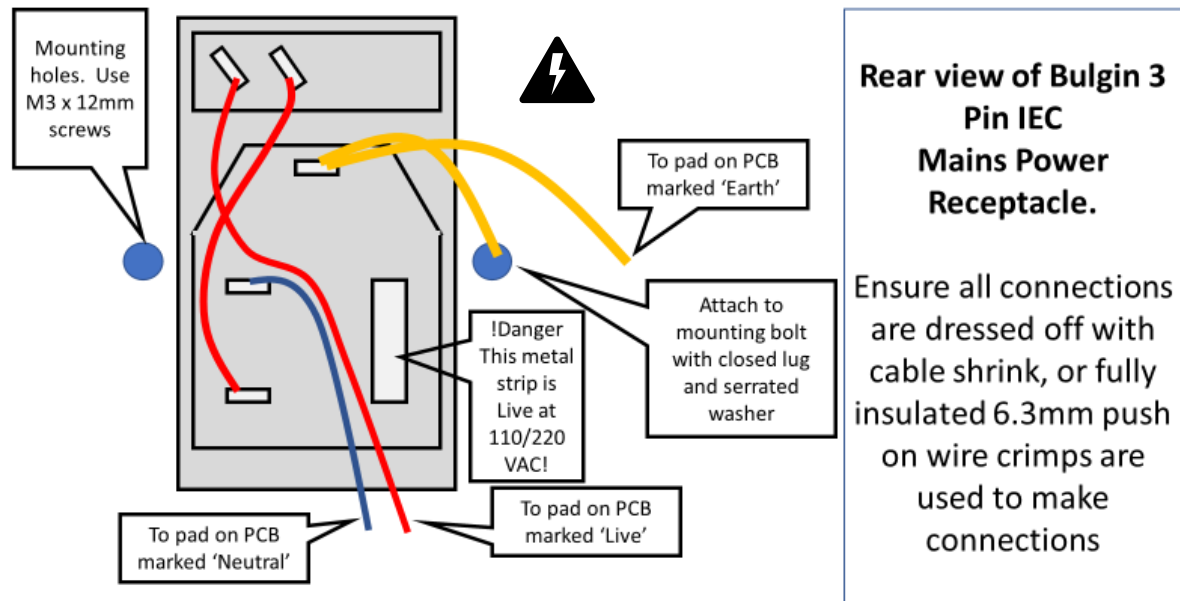

Figure 2 - How to Wire the Bulgin 3 Pin Mains Power Inlet Receptacle
9. Once completed, wire a mains cable and suitable plug for your country to the PCB – See Fig 2 of this document for details on how to wire the IEC receptacle.
1. Wire the live(hot) and neutral to the power inlet receptacle. Ensure each connection is made off with heat shrink *so that no connections are exposed* (See Fig. 2 of this document)